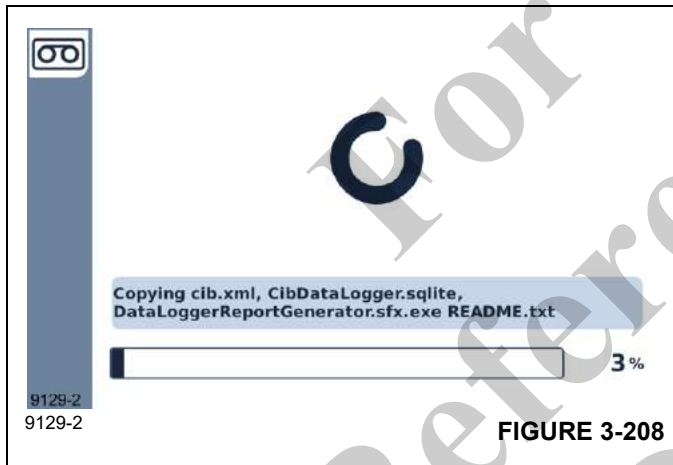

FIGURE 3-208
3. Press USB Button once drive is detected to start download (Figure 3-208).